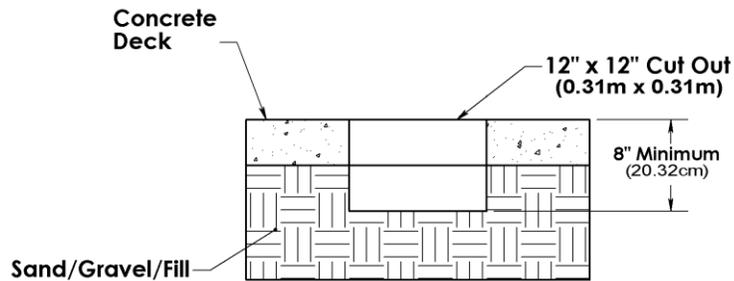

Figure 1
- Use a concrete cutting saw; cut the 12" x 12" square out of the existing concrete deck. Using a heavy/sledge hammer to break the cut section of concrete – remove the section of concrete from the deck. **See Figure 1.**